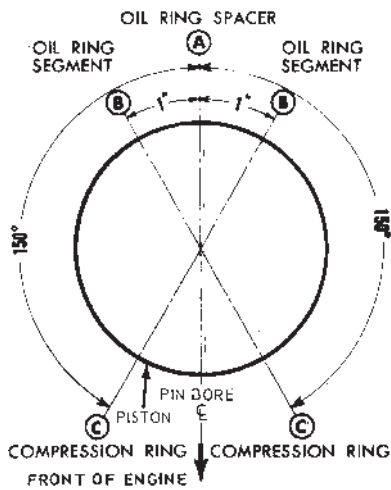

Fig. 35 Piston Ring Spacing
3. Make sure the ring gaps are properly spaced around the circumference of the piston (Fig. 35).